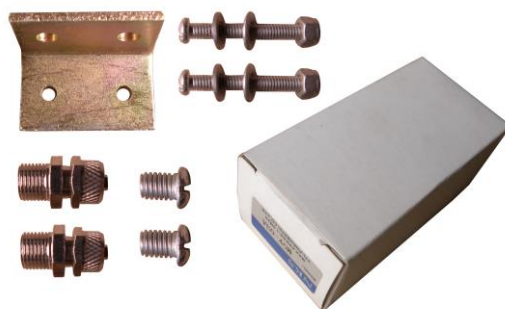

Fig. 9
7. Check the parts of the parts bag according to the parts bag list (See Fig. 9).